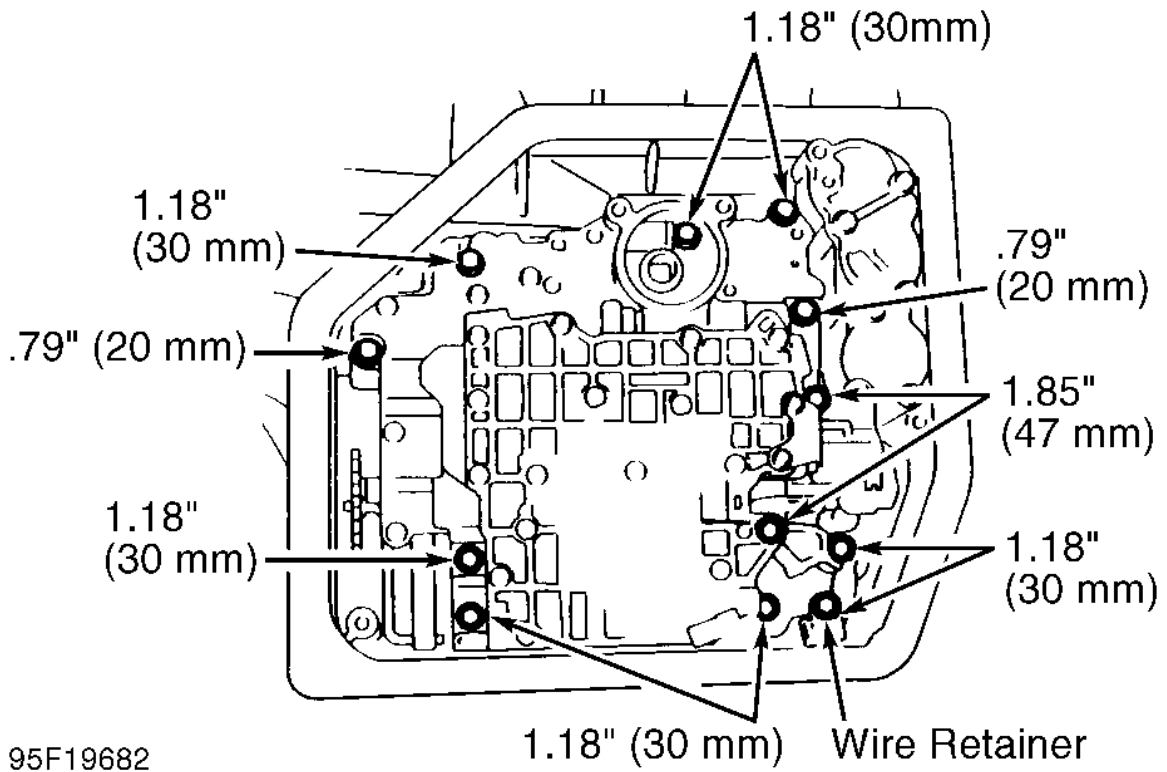
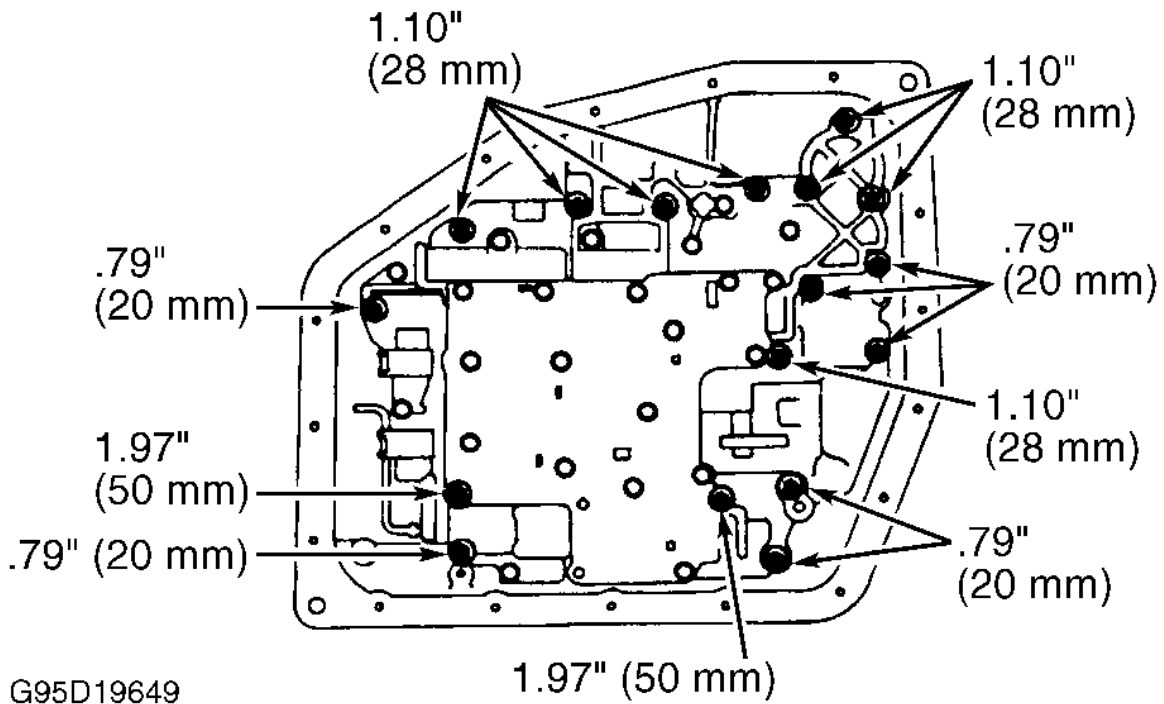

Fig. 2: Valve Body Assembly Bolts (A-241E, A-243L & A-244E)
Fig. 3: Valve Body Assembly Bolts (A-245E & A-246E)
2. Remove manual detent spring. Disconnect solenoid connector(s). Remove valve body assembly bolts. Note bolt length and location. See Fig. 2 and Fig. 3. Remove throttle cable. Disconnect manual valve connecting rod. Remove valve body assembly.
2. Install valve body assembly bolts finger tight. Ensure proper length bolts are installed in correct location. See Fig. 2 and Fig. 3. Tighten bolts to 89 INCH lbs. (10 N.m). Connect solenoid connector(s). Install detent spring and tighten bolt to 89 INCH lbs. (10 N.m). Ensure manual valve lever contacts center of roller on detent spring. Using a plastic hammer, tap oil tubes into place.